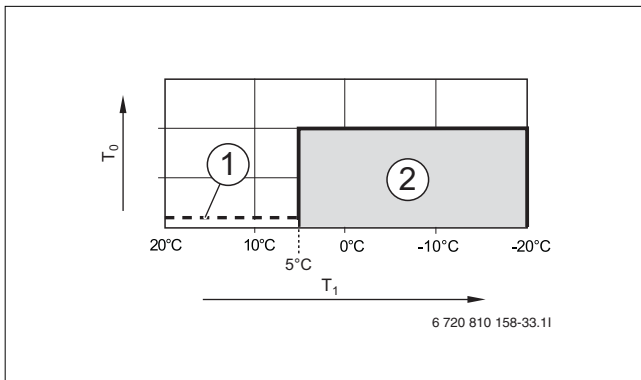
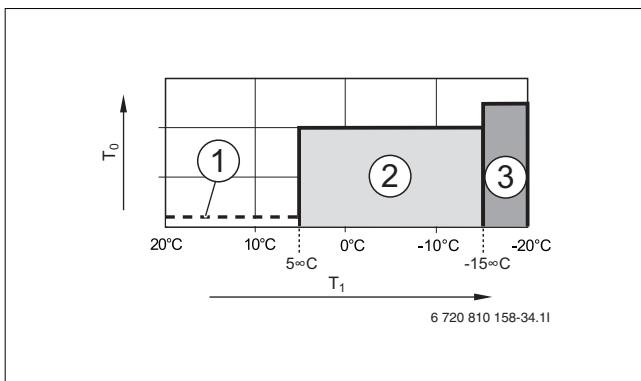

Fig. 43 Effect from setting **Off** (standard settings)
Fig. 44 Effect from setting **-15°C**
Fig. 43 and fig. 44 show the function effects without and with activated parameters. Selected settings: ; ; 5.
**Key to fig. 43:**